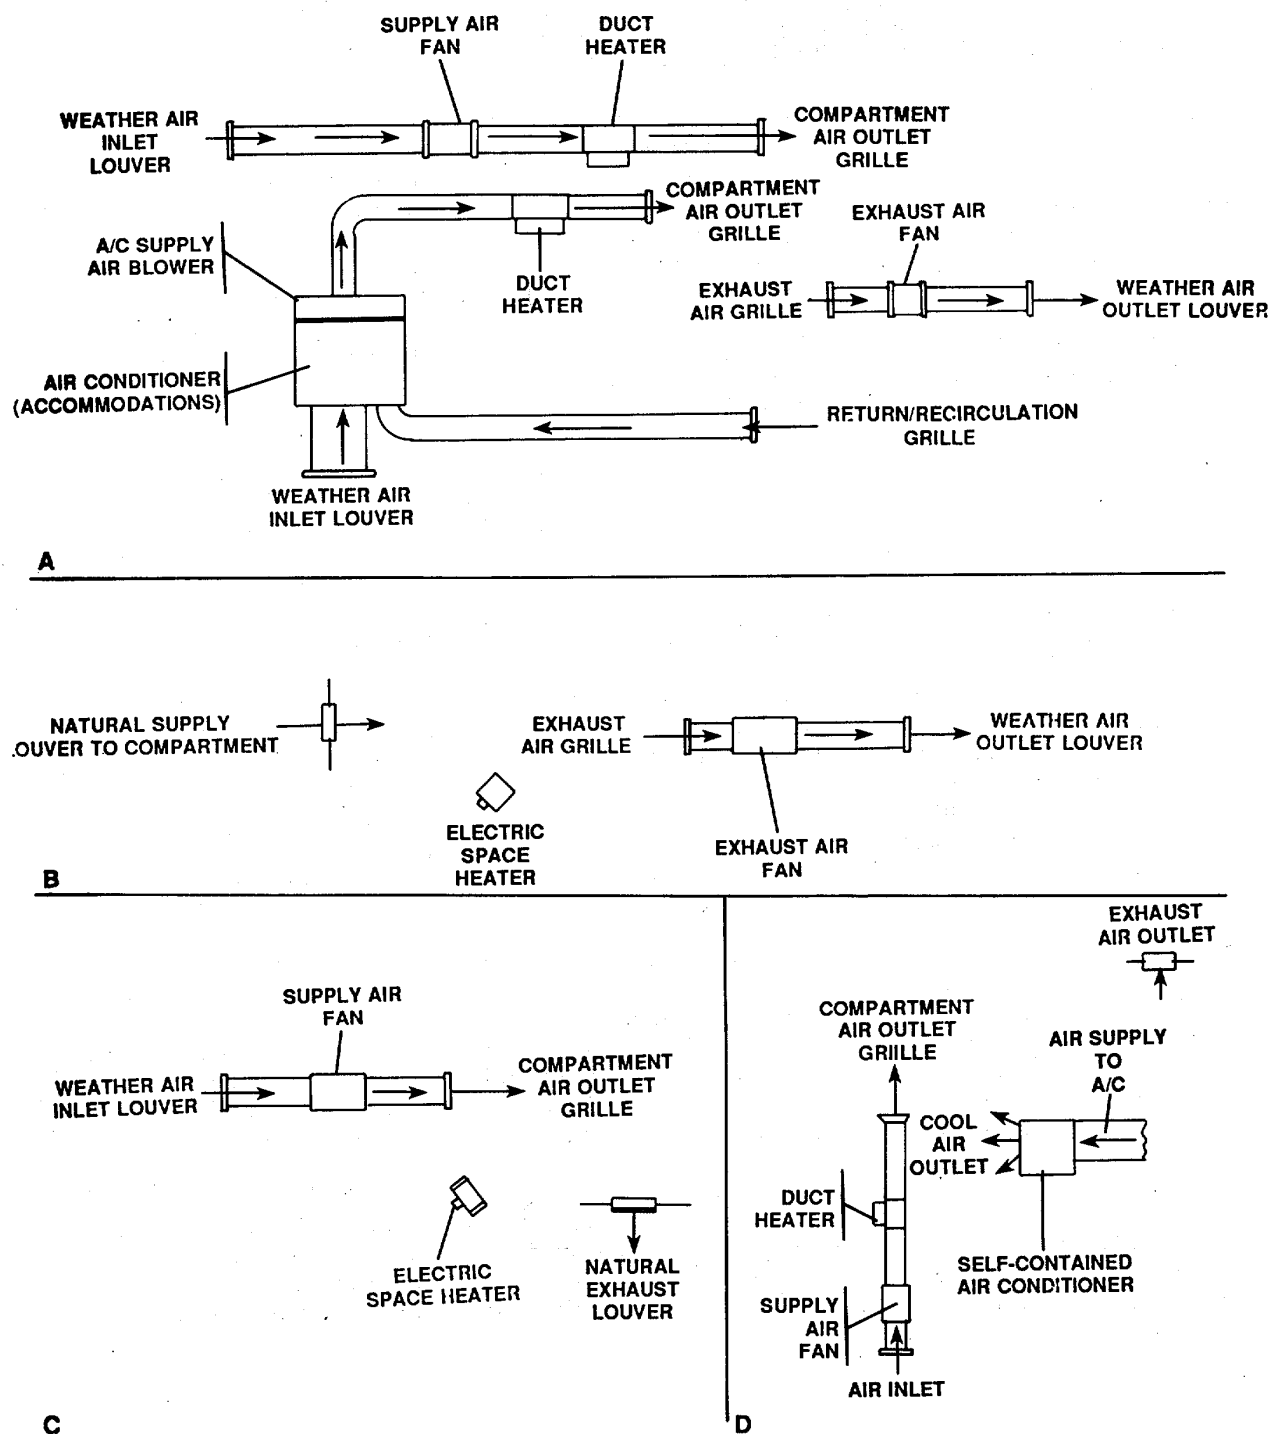

Figure 1-2. Typical Arrangements for Heating, Ventilating and Compartments.
- 1-11. Supply System General.** The heating, ventilation, and air conditioning process begins as weather air enters the HVAC supply intakes. Initial air conditioning begins with the air being filtered. Filters are located in each recirculation system. In the heating cycle, air in the supply intake is heated by an electric preheater which is thermostatically controlled. Supply fans move the air through the supply ducts to ventilate compartments and to heat or cool the air. Natural air supply to toilet and shower spaces is through door undercuts or door louvers. FIGURE 1-2 shows a typical ventilation arrangement for heating and cooling. Refer to TM 55-1905-223-10 for actual arrangement of heating, ventilation, and cooling equipment in each compartment aboard the vessel.